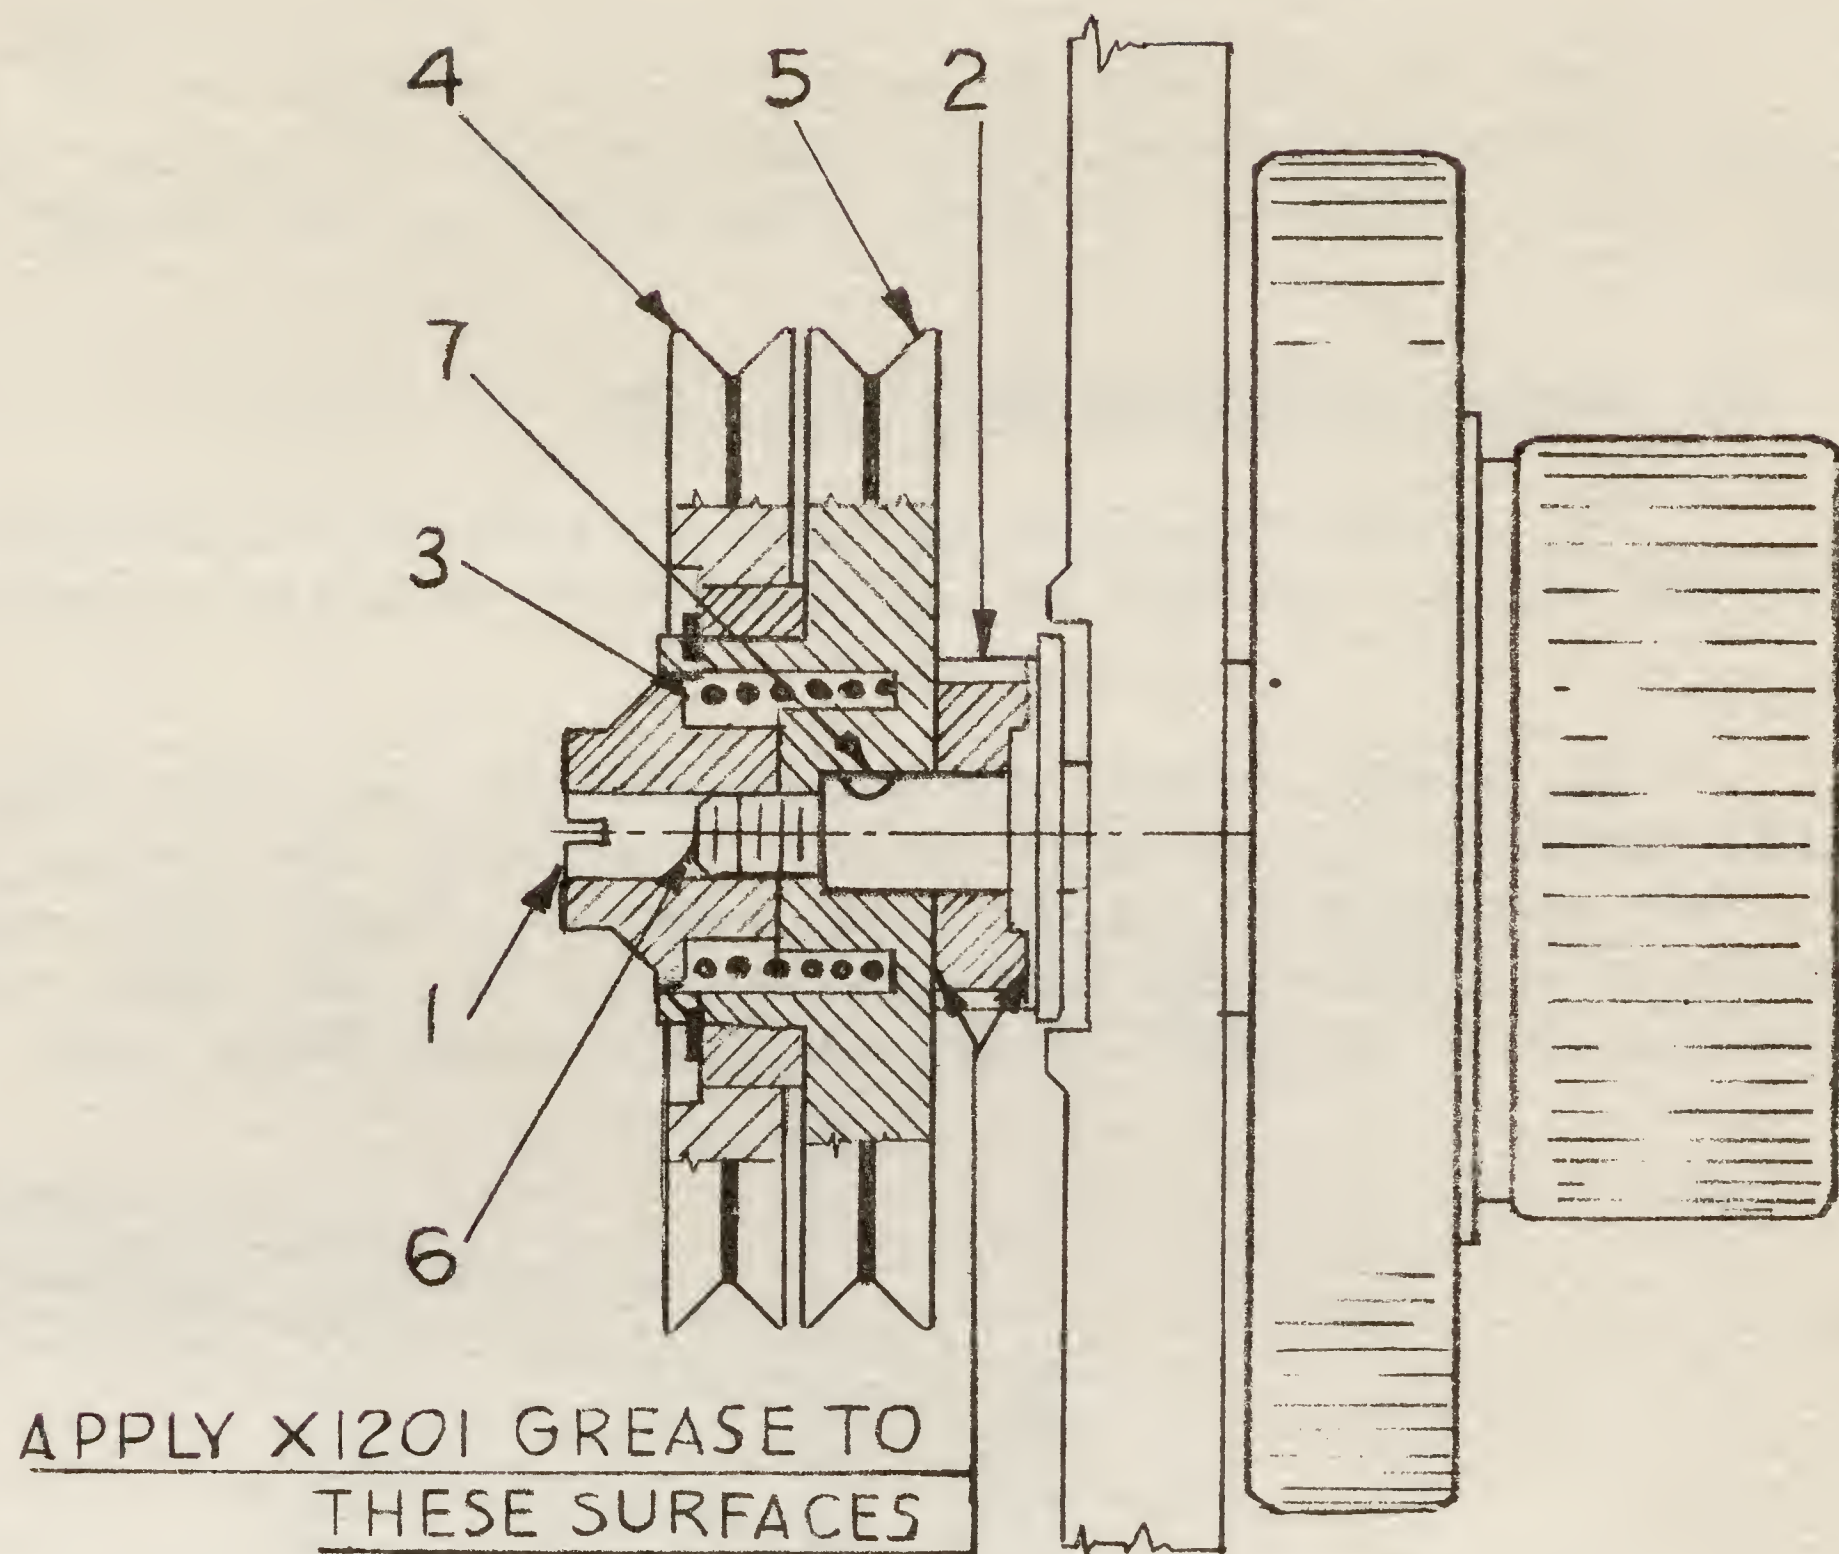

FIG. 7
\* (G) Assembler Star Friction (Fig. 7)